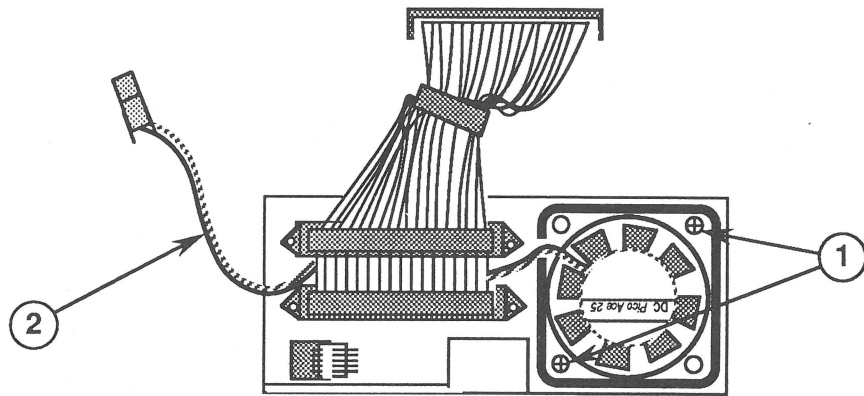

FIGURE 21
3. Remove the two screws (Figure 21, #1) that secure the fan to the frame, and lift the fan free.
1. Set the fan in position in the frame as shown in Figure 21.
2. Replace the two screws (Figure 21, #1) that secure the fan to the frame.
3. Replace the HDA-to-case cable. Be sure to route the fan cable (Figure 21, #2) behind the HDA-to-case cable and between the connectors.